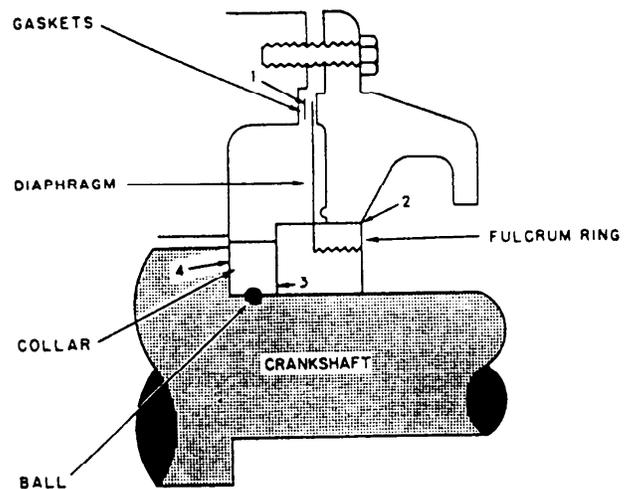

Figure 11-9.—Diaphragm-type seal.
The diaphragm seal, figure 11-9, consists of a diaphragm clamped to the crankcase at its outer circumference and to a fulcrum ring at its center. The fulcrum ring forms a seal collar which is locked to the diaphragm. The sealing points are located (1) between the outer circumference of the diaphragm and the crankcase and sealed by a copper ring gasket, (2) between the fulcrum ring and the diaphragm-sealed at the factory and not to be broken, (3) between the fulcrum ring and the rotating shaft seal collar and sealed by lapped surfaces, and (4) between the shaft seal collar and the crankshaft shoulder and also sealed by lapped surfaces.